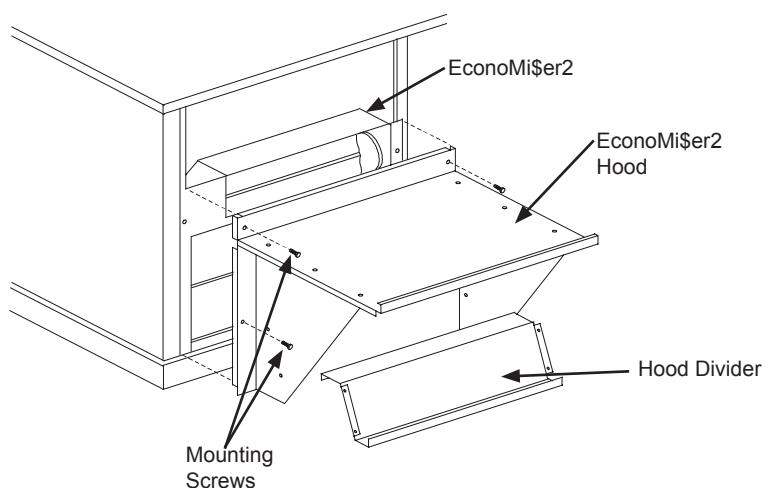

Fig. 8 - EconoMi\$er2 Hood Installation
9. Remove and save the 12-pin jumper plug from the unit wiring harness (located in the upper left corner of the unit). Insert the EconoMi\$er2 plug into the unit wiring harness. Refer to Fig. 8 for wiring diagram.
11. Install the EconoMi\$er2 hood over the EconoMi\$er2. Use screws provided. (See Fig. 8.)